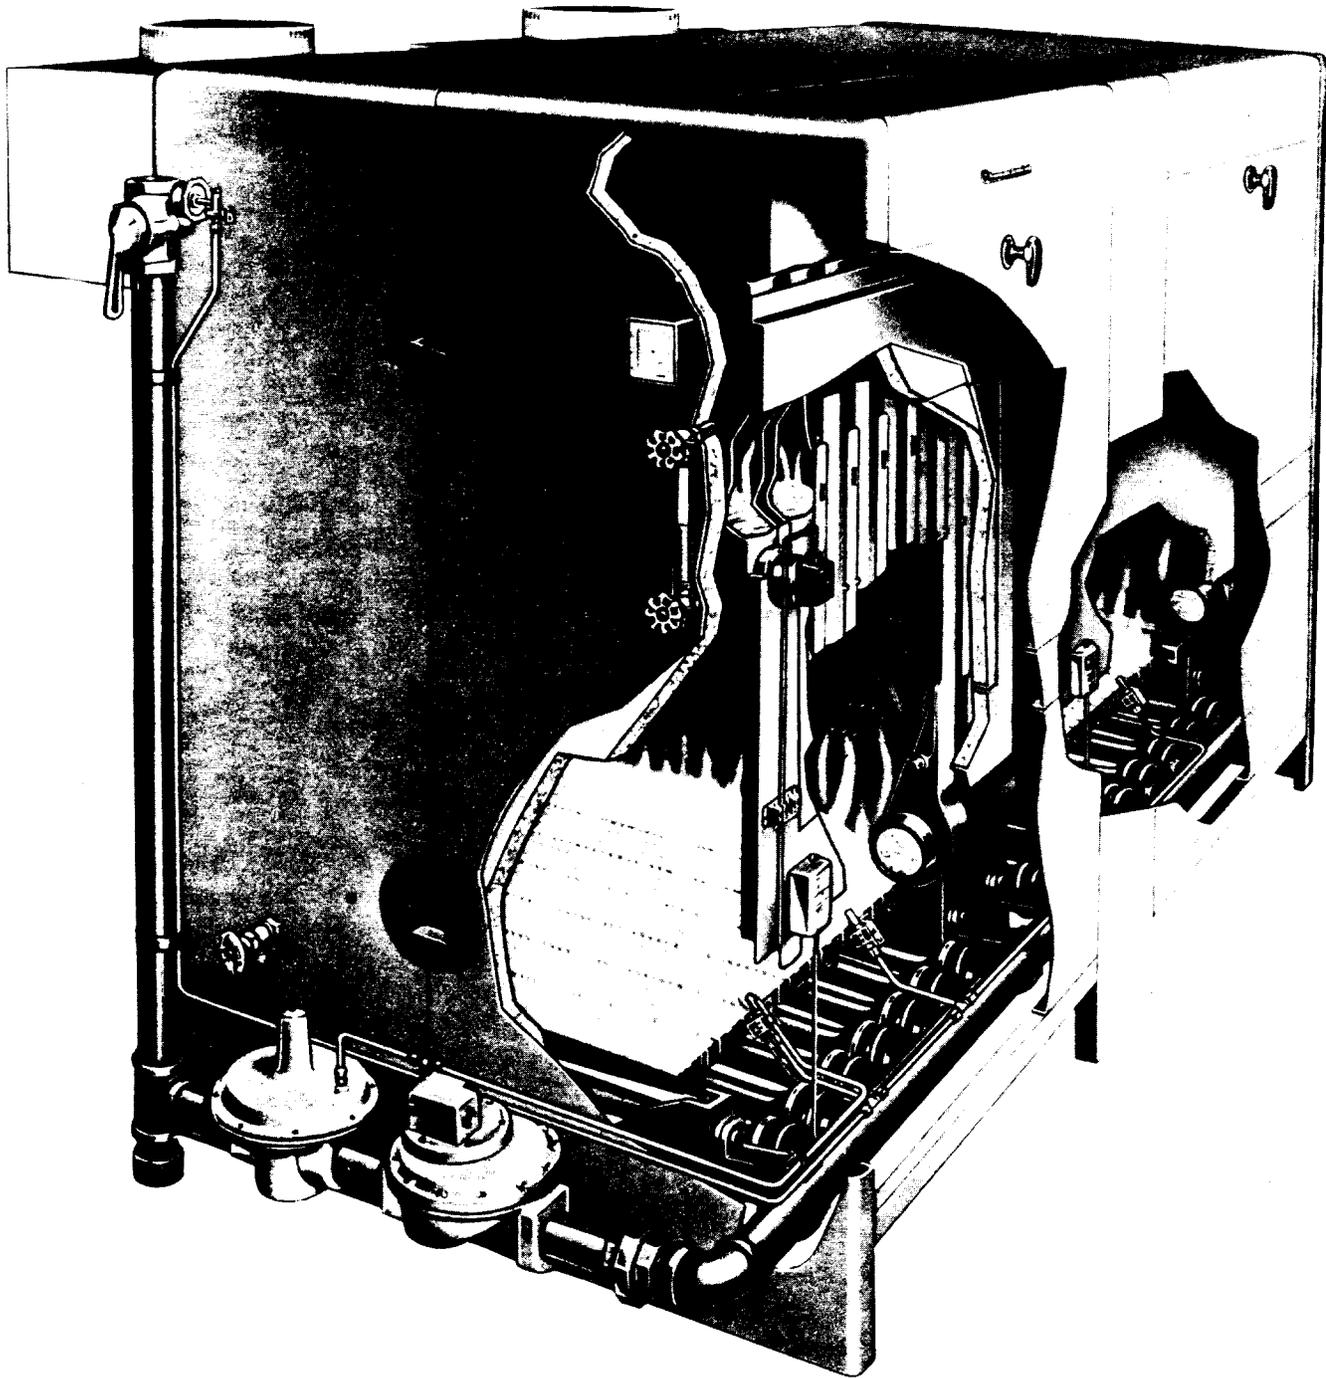

Fig. 3—Cast-Iron Boiler Designed Exclusively For Gas Fuel (American Radiator and Standard Sanitary Corporation)
**3.06** Internal push-nipple boilers designed exclusively for gas fuel (Fig. 3) are constructed with minimum sized combustion chambers. These, along with studs cast into the sections, provide for a maximum of heat absorbing surface.